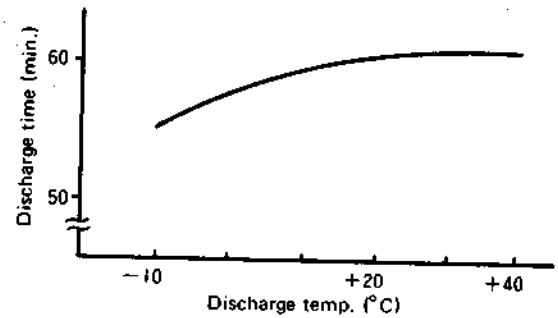

Fig. 4
- 2) Fig. 4 shows the discharge curve when the BP-N77 is charged at 25°C (77°F) and used with the VP-77EG/EK + VC-31EG/EK (or VC-61EG/EK) combination.